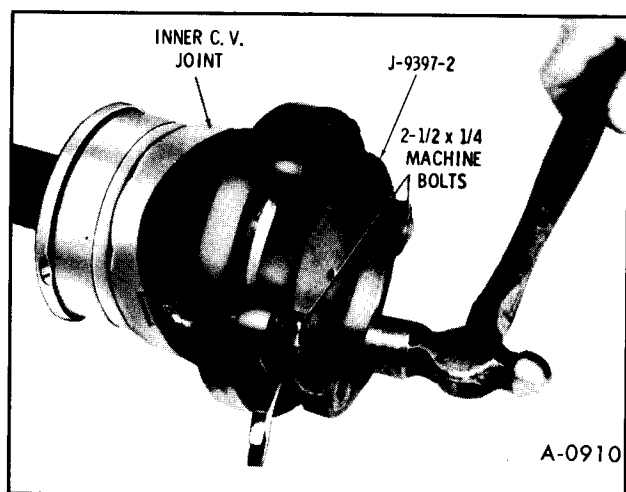

Figure 29—Installing Cover Into Housing
8. Install cover into housing using existing A/C Tool No. J-9397-2. Attach two machine bolts (1/4" x 2-1/4" Lg.) as shown in Figure 29 and tighten bolts alternately while tapping lightly with hammer until cover bottoms.